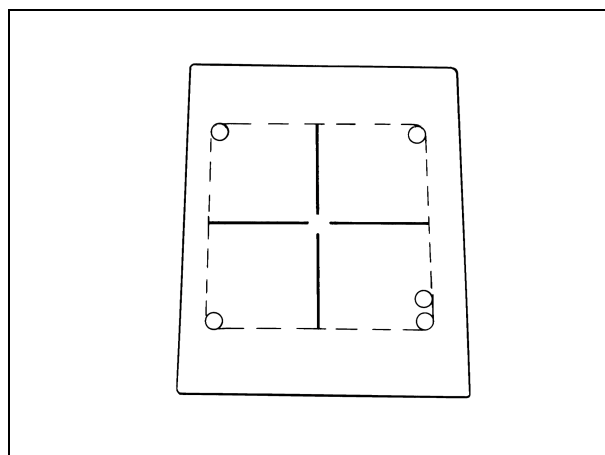

Fig. 12
- Mark the four corners with coins and mark one of the corners with two coins (Fig. 12).